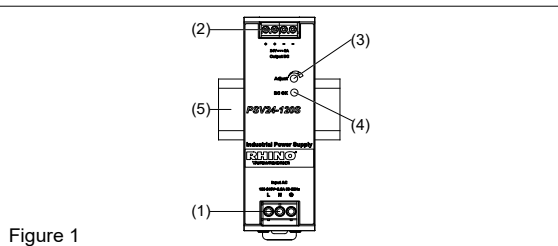
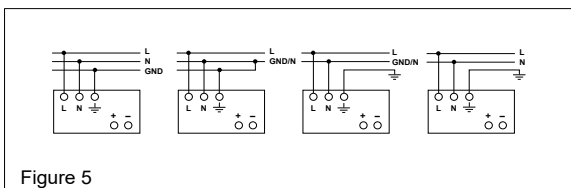

Figure 1
Figure 5
5.1. Input connection (Fig. 1, Fig. 5)
Use L, N and GND connections of input terminal connector (see Fig. 1 (1)) to establish the 100-240 VAC connection. Typical connection methods are shown in Figure 5.
5.2. Output connection (Fig. 1 (2))
Use the "+" and "-" screw connections to establish the 24VDC connection. The output provides 24VDC. The output voltage can be adjusted from 22 to 28 VDC on the potentiometer. The green LED DC OK displays correct function of the output (Fig. 1 (4)). The device has a short circuit and overload protection and an overvoltage protection limited to 28.8-35.2 VDC.